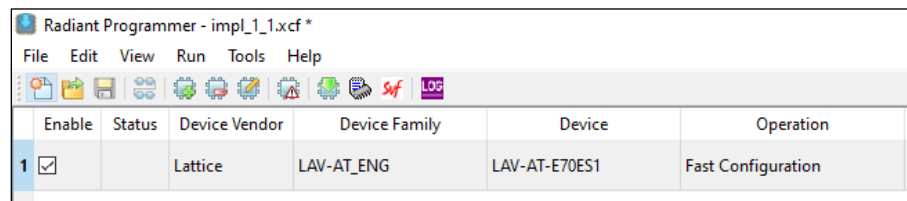

Figure 7.13. Device Selected for Programmer
- Click on the highlighted item under the **Device** field to un-highlight it as shown in Figure 7.13.